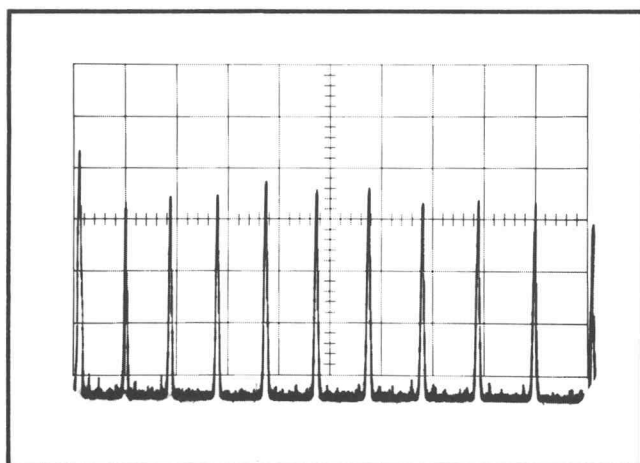

Fig. 5-5. Typical display for Dispersion Linearity Check (Step 11).
- c. At each DISPERSION/CM setting of Table 5-2, readjust the DISP CAL adjustment to align the correct markers with the first and ninth graticule lines (see Fig. 5-5). (The IF CENTER FREQ controls may be moved slightly away from center to position a marker at the first graticule line.)